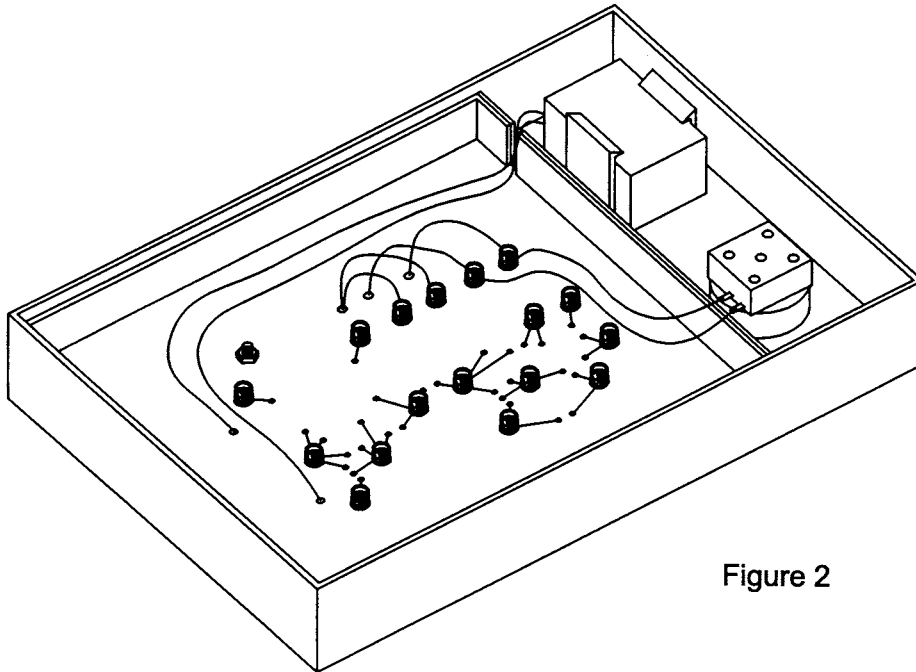

Figure 2
3. Turn the Board upside down and compare your wire connections to Figure 2.
4. Check your wiring against Figure 1 and Figure 2.